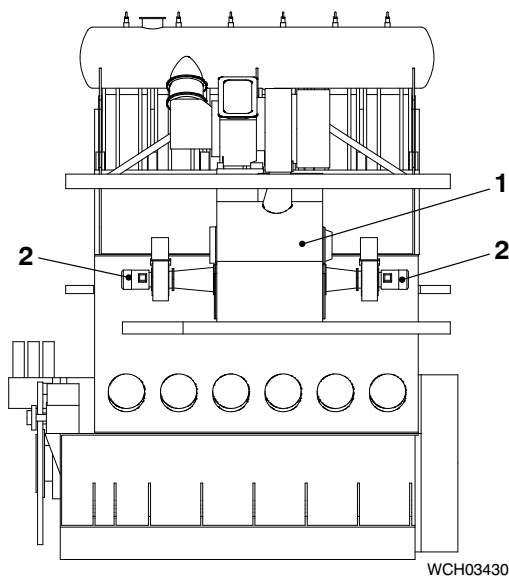

Fig. 1 Engine with One Turbocharger
Two auxiliary blowers (2, Fig. 1) are attached to the scavenge air receiver (1). For more data about the auxiliary blower, refer to the Operation Manual 6545-1 Auxiliary Blower and Switch Box.